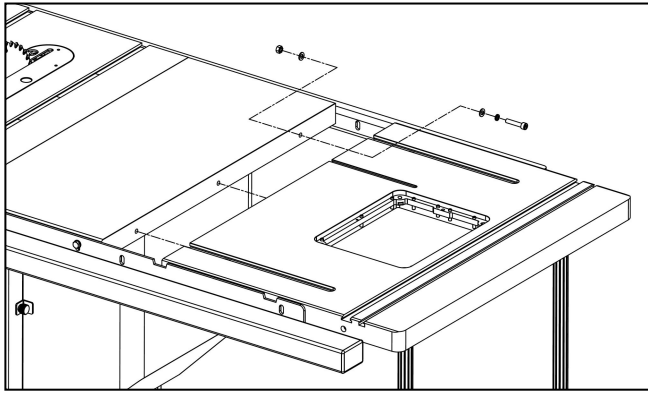

Fig. 12
2. With the assistance of at least one another person, turn the table and leg assembly upside down, connect the router table to the table saw extension wing and secure them together with screws, as shown in Fig. 12. Align the router table and table saw surface, then lock the screws. After the alignment, lock the supporting feet, so that they are in contact with the floor.